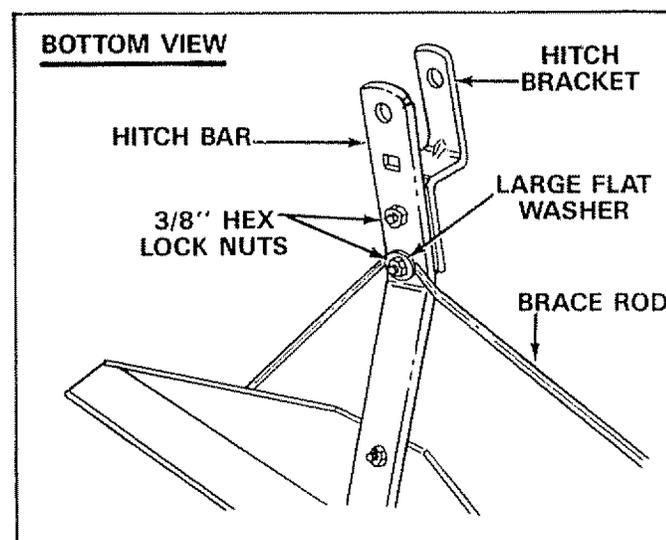
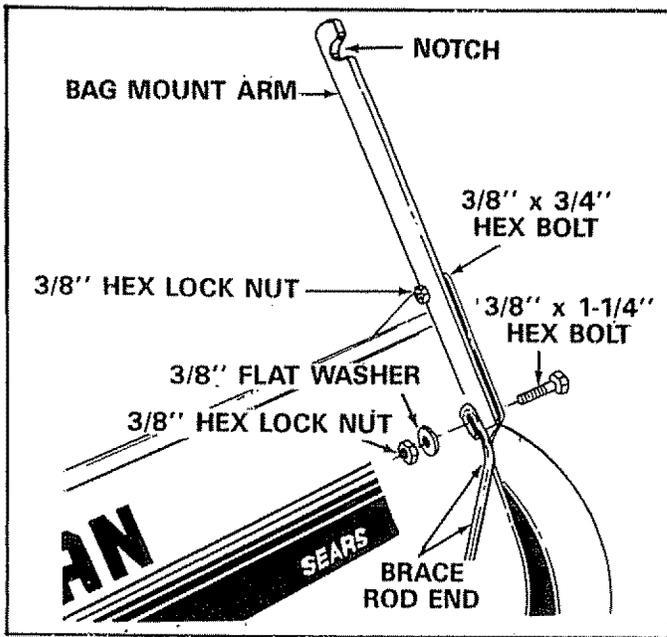

FIGURE 5
FIGURE 6
5. Assemble the two bag mount arms and top ends of brace rod. See figure 6. Assemble the top hole in arms to sweeper housing using two 3/8" x 3/4" hex bolts and 3/8" lock nuts. The notched side of mount arms face upward and mount on the inside of housing. See figure 6. Assemble the brace rod under hitch bar and large washer in back hole of hitch bracket, then assemble brace rod ends to bottom holes in arms and sweeper housing, using two 3/8" x 1-1/4" bolts, 3/8" flat washers and 3/8" hex lock nuts. See figures 5 and 6. **Do not tighten at this time.**